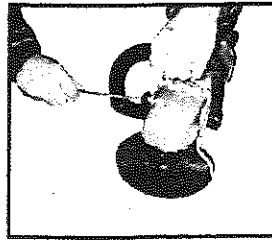

Fig 1
② For your safety, please use auxiliary handle(sec Figure 1)